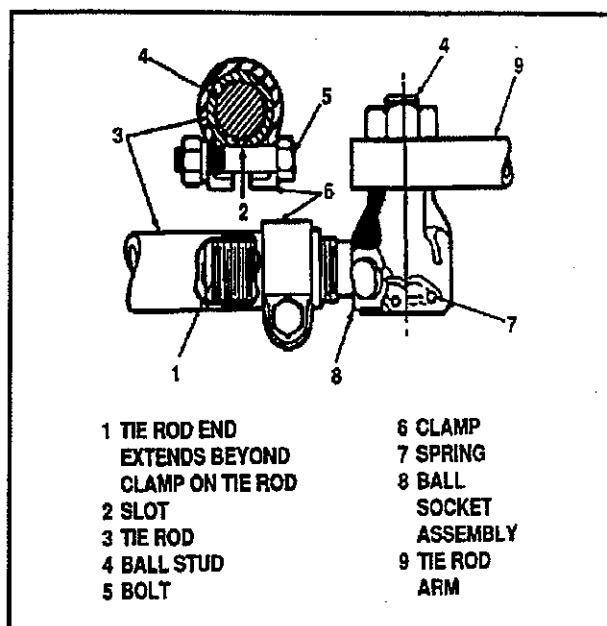

Figure 19—Typical Tie Rod
1. The tie rods are of a three piece construction, consisting of a tie rod and two rod end assemblies. (See Figure 19 - Typical Tie Rod.)